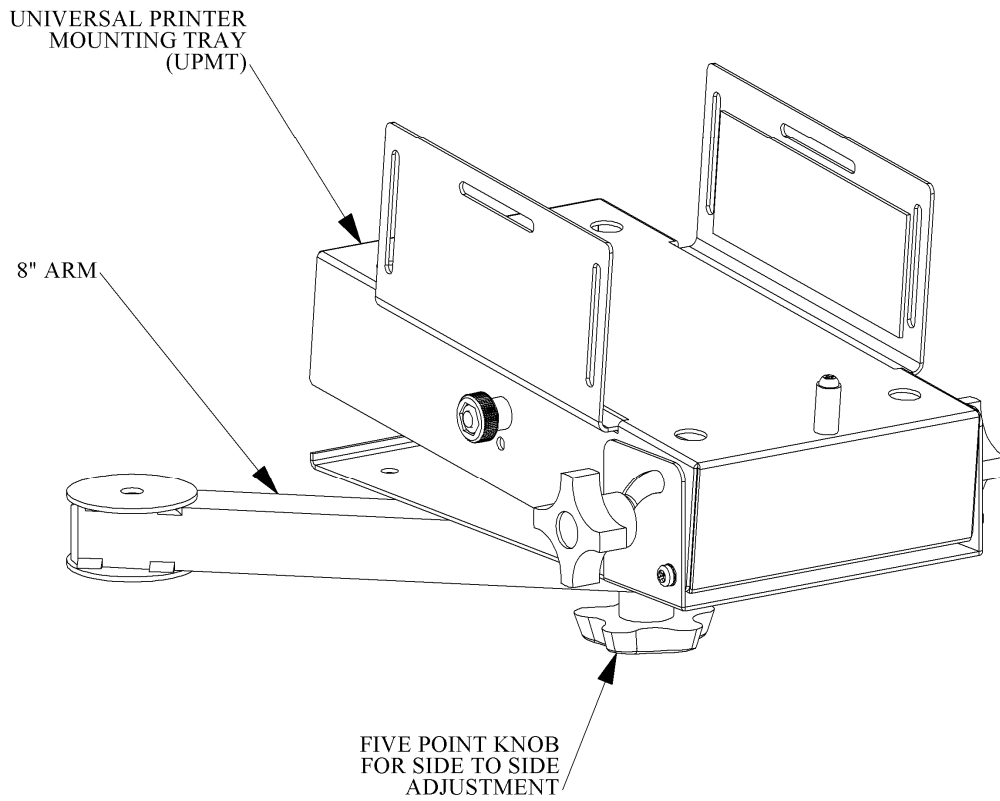

Figure 5 - An 8" arm and a UPMT
3. Install the printer tray on the end of the arm (See Figure 5).
The width of the UPMT will expand to support printers from 5" to 9 1/2" wide. To extend or retract the sides of the tray, turn one of the small round knobs on either of the sides on the middle of the tray until the desired width is adjusted (See Figure 5).